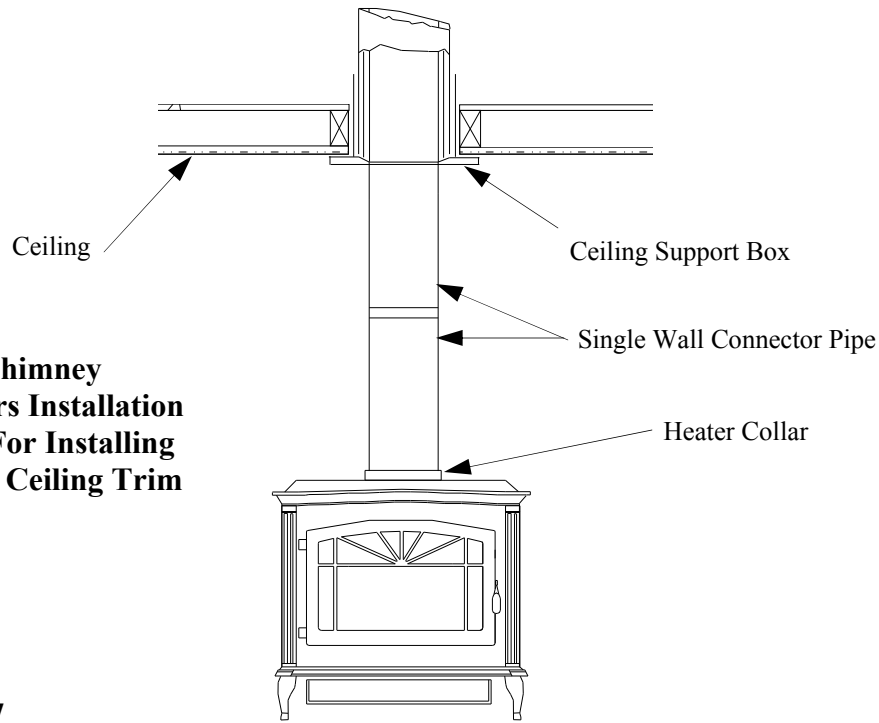

Figure 7
3. Now connect the stove and ceiling support box using #24 ga. minimum blued or black steel connector pipe (**DO NOT USE GALVANIZED PIPE**). Connect each section so the crimped end faces downward, and secure each section to each other using at least three (3) sheet metal screws or rivets. Also use three (3) sheet metal screws to fasten pipe to collar on heater. (See Figure 7.)
1. Mark the plumb line on the wall directly behind the center of the heater. (See Figure 7.)